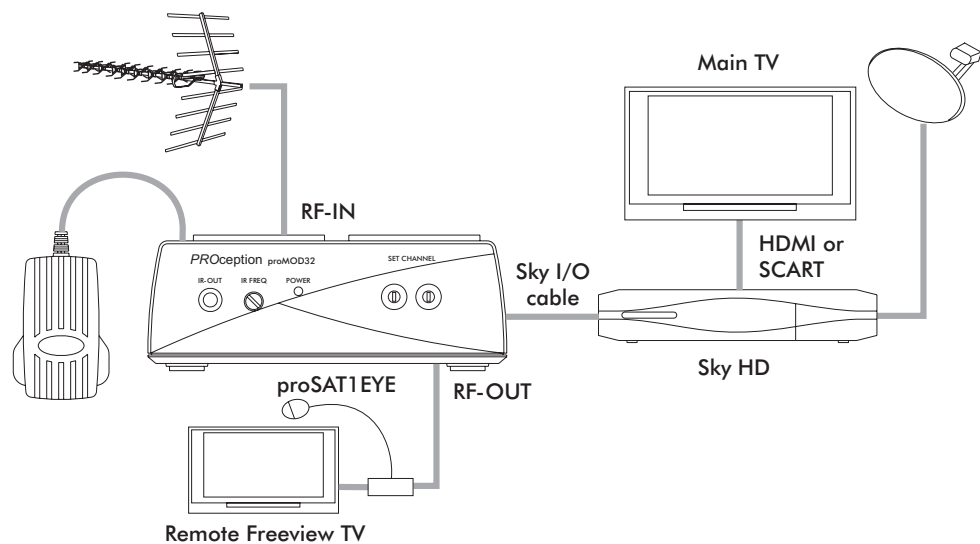

Fig. 3 – Basic Sky application.
- Fig. 3 shows the basic application with a Sky receiver or PVR without RF-2 capability. The example assumes that the main TV is fed only from the Sky receiver. The modulator is linked using the Sky-I/O cable and the RF loop-through provides off-air terrestrial signals (Freeview) for use in the remote location (typically a bedroom). The proSAT1EYE infrared 'eye' allows the Sky box to be controlled from this location. An IR blaster is not required in this case.